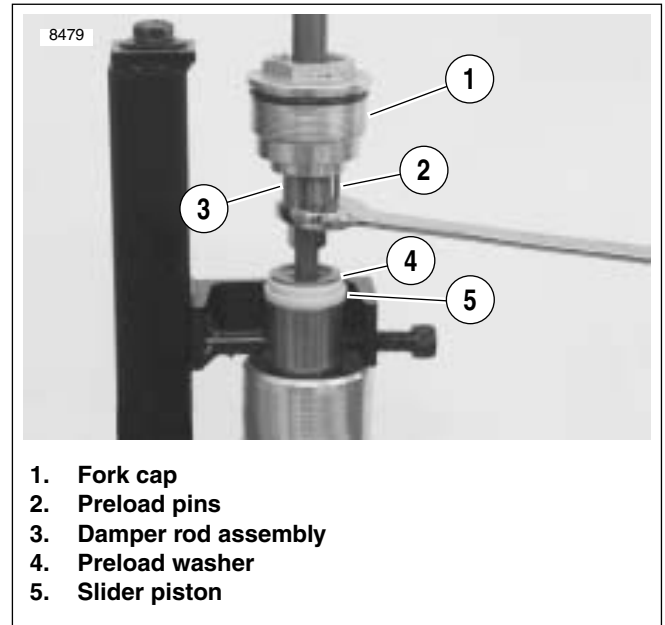

Figure 2-68. Holding Damper Rod Assembly
7. See Figure 2-68. Hold damper rod assembly (3) and remove fork cap (1).
20. See Figure 2-68. Install preload washer (4) and slider piston (5).
21. Hold damper rod assembly (3) and install fork cap (1) from damper rod assembly (3) tightening to 22-30 ft-lbs (30-40 Nm).
See Figure 2-68. Careful not to damage preload pins (2) while holding damper rod assembly (3),
22. Apply fork oil or light grease to o-rings on preload adjuster and install preload adjuster (3).
23. Install snap ring (2).